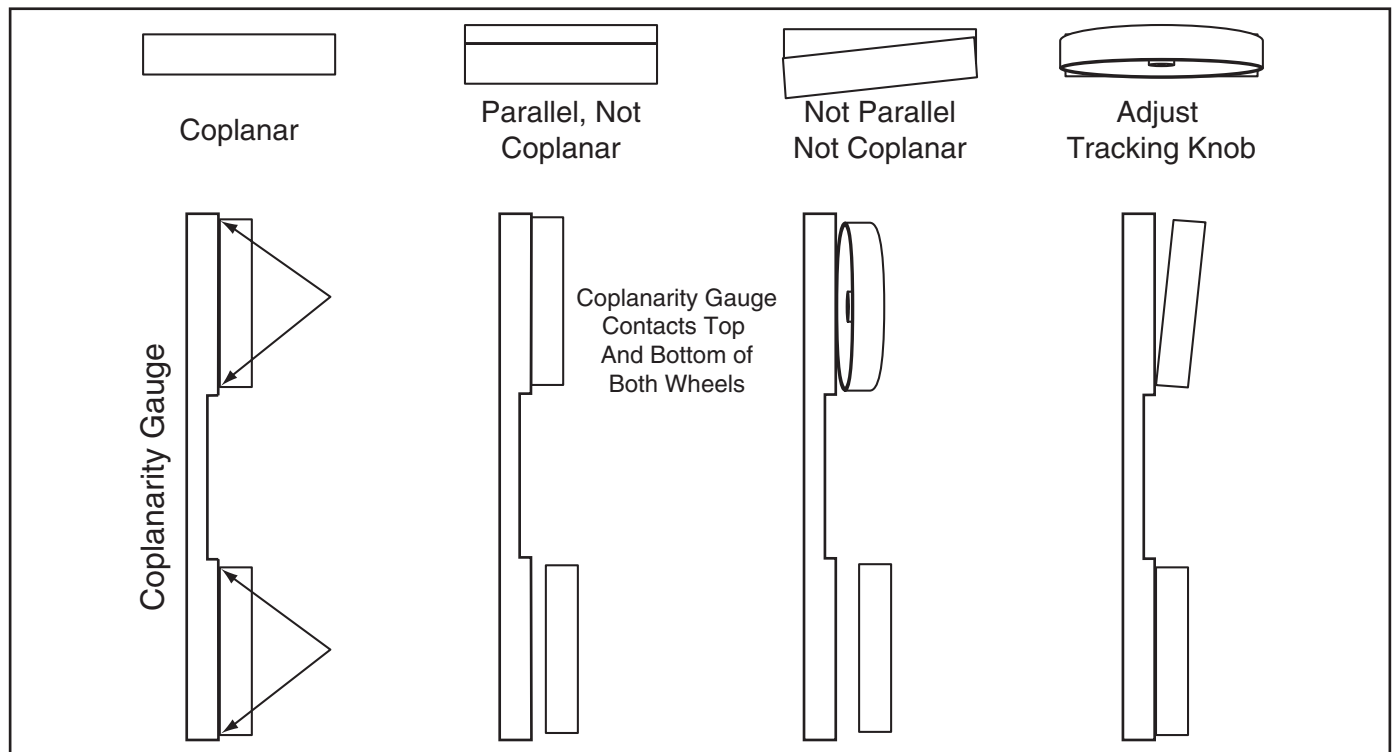

Figure 66. Coplanarity diagram.
8. **Figure 66** shows the positions of the wheels when coplanar. When your wheels are coplanar, readjust the guide blocks and rear support bearings, and replace the wheel covers.